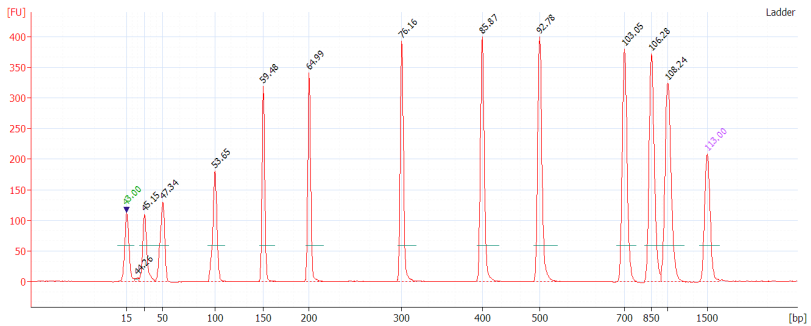

Figure 8: Ladder electropherogram
3. Verify that the ladder plot profile looks similar to **Error! Reference source not found.** below and contains 13 peaks with the lowest at 15 bp and the highest at 1,500 bp (these are the markers that will be in every sample read) with a flat baseline (see Figure 8).